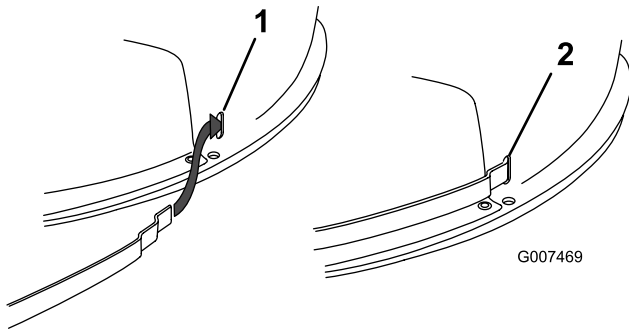

Figure 19
Note: Do not remove the straps from the mower housing. If a strap comes off the housing, insert it as shown in (Figure 19).
16. Raise the grass collector and install the clevis pin, 2 washers, and hairpin to secure the discharge tube to the rear plate (Figure 19).